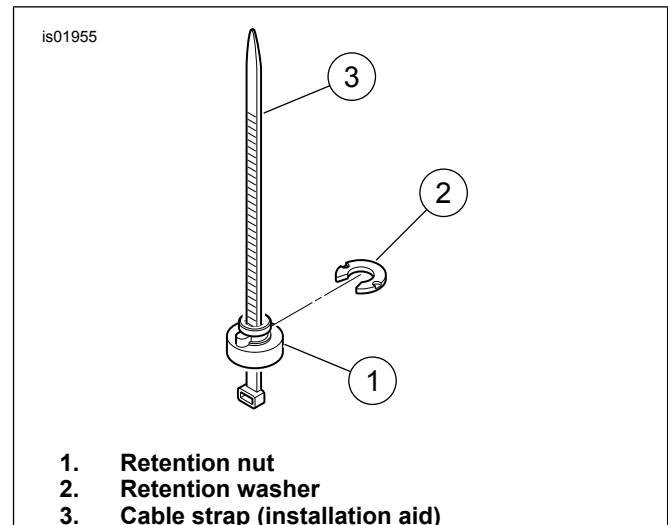
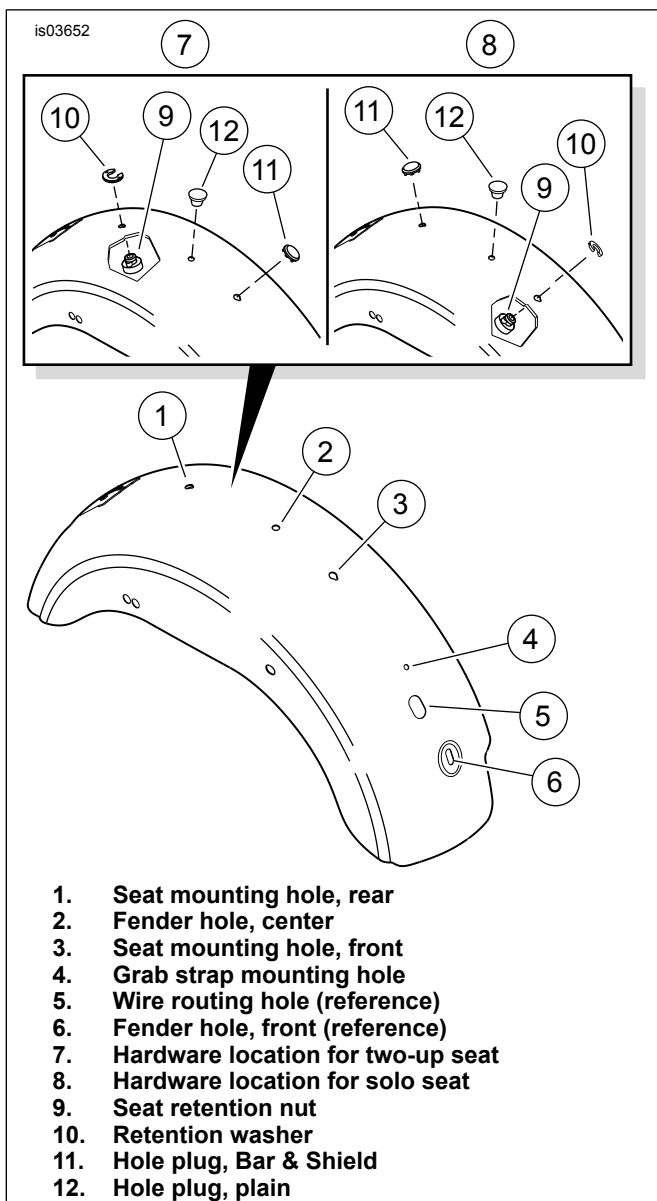
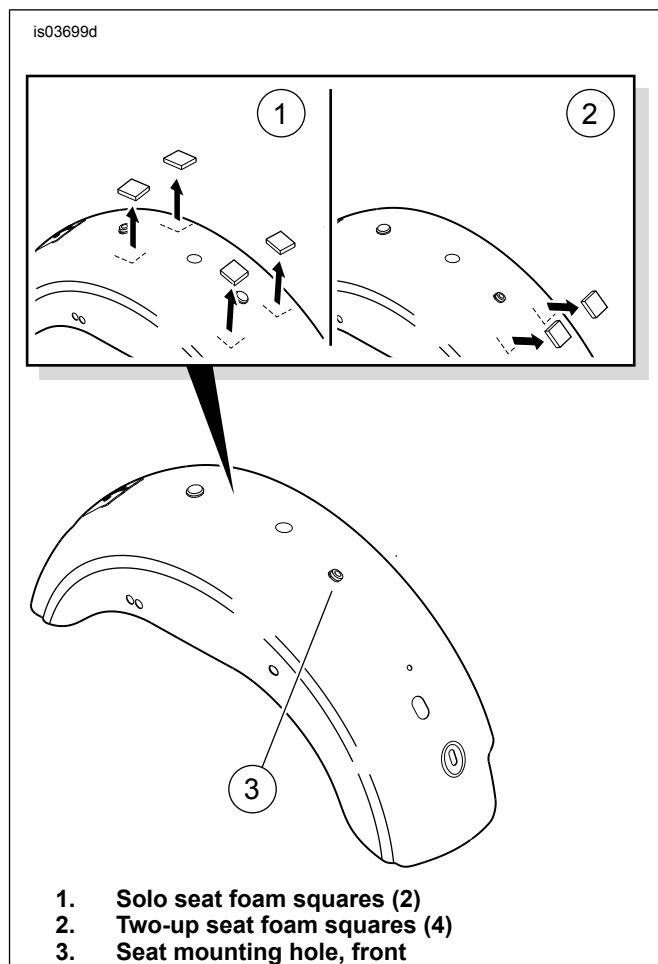

Figure 1. Retention Nut Installation
Figure 2. Fender Hole Identification and Hardware Locations
Figure 3. Foam Squares on Fender
3. **For Models with two-up Seat:** At the rear seat mounting hole (1), remove the retention washer (10) from the seat retention nut (9). From the underside of the fender, remove the seat retention nut from the vehicle. Insert the Bar & Shield hole plug into the rear seat mounting hole. Remove the grab strap and all attaching hardware.
4. See Figure 1. Obtain the cable strap (3) from the kit.
- a. Place the retention nut (1) over the cable strap (3) so the wide end of the nut rests on the eye of the cable strap.
5. See Figure 2.
- a. Thread the cable strap up under the fender and through the front seat mounting hole (3).
- c. With the rib on the retention nut seated into the notch in the fender hole, slide the retention washer (2) into place from the rear locking the retention nut in place. Remove cable strap.
6. See Figure 3. **For Models with two-up Seat:** Remove the four foam squares (1) from the fender. **For Models with Solo Seat:** Remove the two foam squares (2) from the fender.